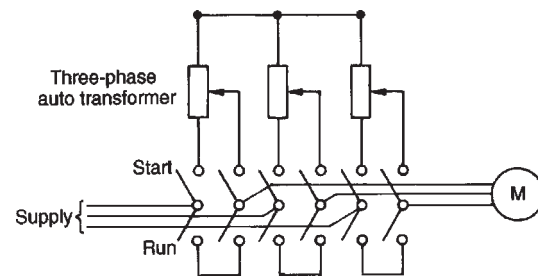

Figure 26.11
torque is seriously reduced (see equation (12)), so the voltage is reduced only sufficiently to give the required reduction of the starting current. A typical arrangement is shown in Fig. 26.11. A double-throw switch connects the auto transformer in circuit for starting, and when the motor is up to speed the switch is moved to the run position, which connects the supply directly to the motor.